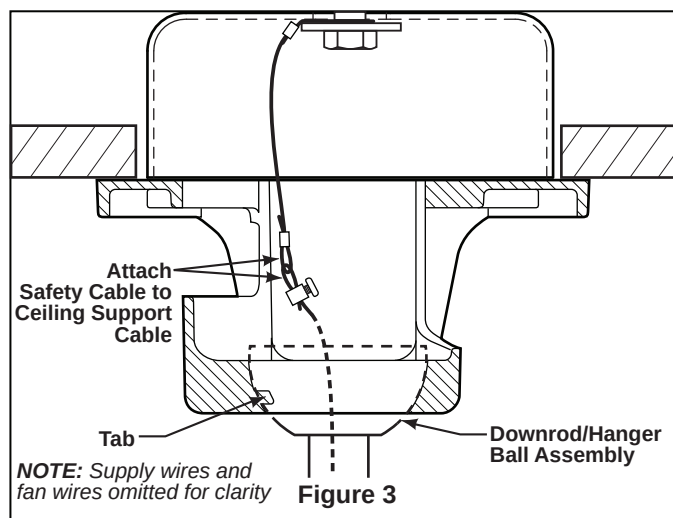

Figure 3
7. Route wires through opening in Canopy. Position Canopy on fan shown with open side facing up. (Figure 3)
8. Reinstall the Hanger Ball (Figure 3) on the Downrod as follows. Route the three 80" wires through the Hanger Ball. Position the Pin through the two holes in the Downrod and align the Hanger Ball so the Pin is captured in the groove in the top of the Hanger Ball. Pull the Hanger Ball up tight against the pin. **Securely tighten the setscrew in the Hanger Ball. A loose setscrew could create fan wobble.**
10. Slide the Motor Coupling Cover down until it touches the top of the Housing. (Figure 3)
4. Carefully lift the fan and seat the downrod/hanger ball assembly on the hanger bracket that was just attached to the ceiling joist. Be sure the groove in the ball is lined up with tab on the hanger bracket. (Figure 3)
5. Attach the safety cable to ceiling support cable. Slide cable clamp onto safety cable (from fan). Place the end of cable through the loop of ceiling support cable. Pull as much cable through loop as possible. Feed end of cable into clamp hole and firmly tighten screw (Figure 3). Cut off excess safety cable.
- Connect wires as indicated: (Figure 3)